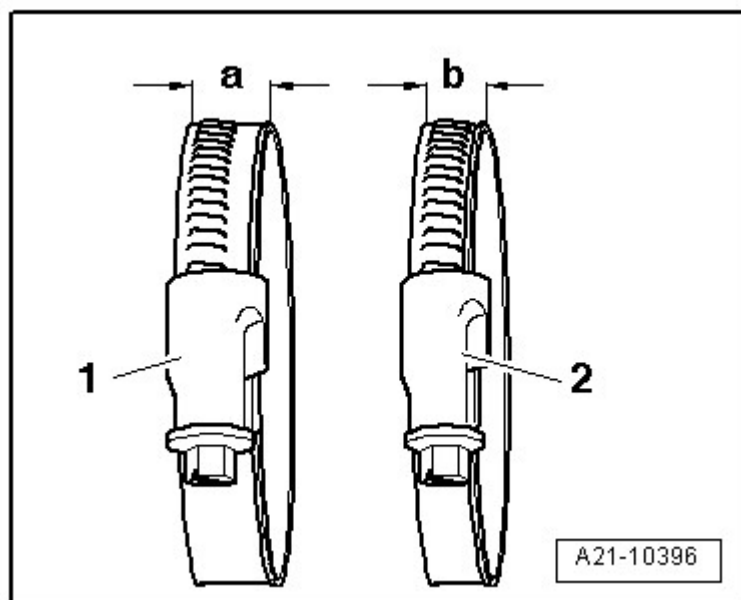

Fig. 187: Clamp Tightening Specifications
-- Install the air duct hoses and screw-type clamps. Refer to **Fig. 187**.